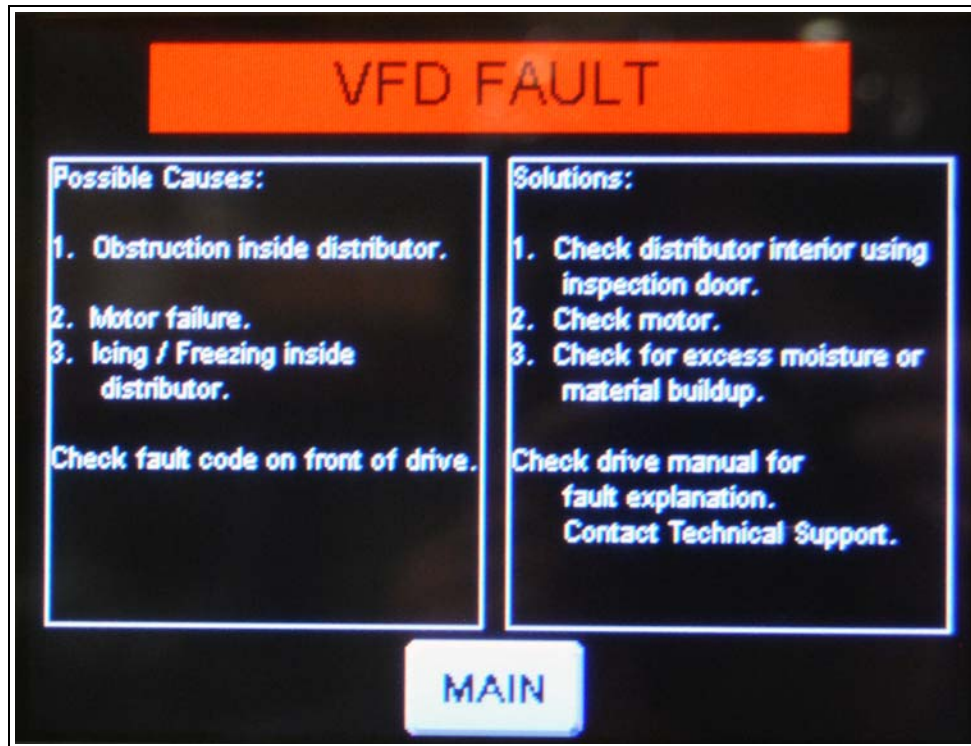

Figure 3F Drive Fault Screen
**Drive Fault:** Displays the “VFD” Fault screen which offers possible causes and solutions to faults caused by the variable frequency drive (See Figure 3F on Page 34.)